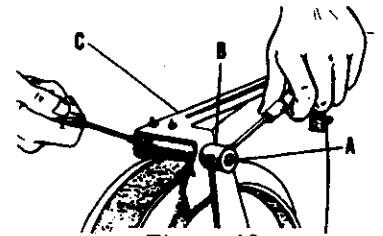

Figure 12
This is made before shipment. If further adjustments are necessary, use two screw drivers, with the one in the right hand held securely in brake shaft (Index A, figure 12). Left hand operates screw driver to loosen set screw (Index B, figure 12). Turn brake bracket shaft clockwise to tighten brake—counterclockwise to loosen brake.
To adjust the brake: (1) Turn the brake bracket shaft counterclockwise until the wire guide assembly (Index C, figure 12) falls limp. (2) Turn the brake bracket shaft clockwise until the slack is removed and the brake shoe is just touching the brake drum. (3) Make one more full turn on the brake bracket shaft. (4) Tighten set screw.